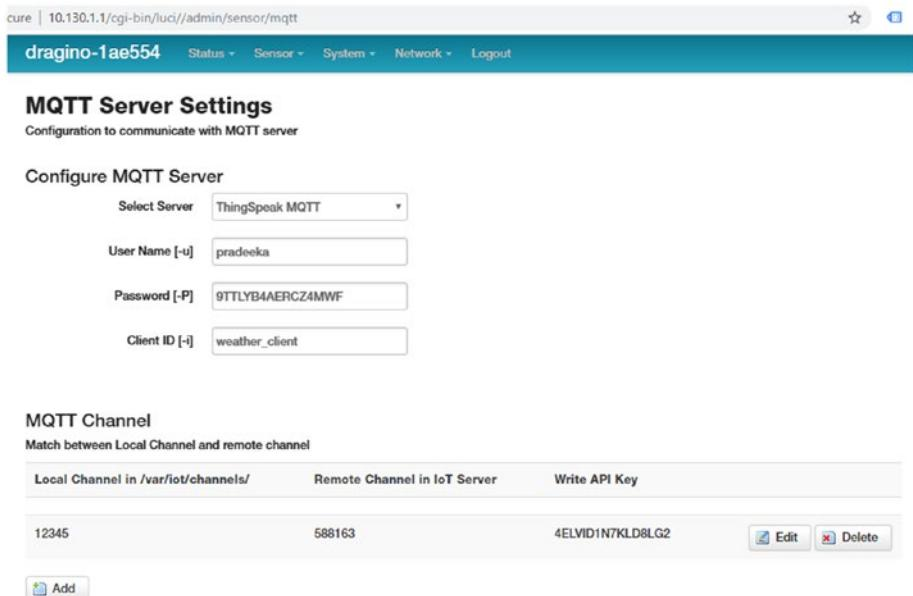

Figure 7-17. Completed MQTT Server Settings page
- Click the Save & Apply button. Now your MQTT Server Settings page should look like Figure 7-17.